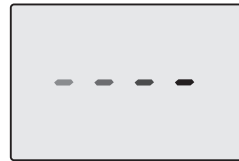

Fig. 7.4
- Electrically power the boiler by switching on the double pole isolation switch. The LCD will display, the - - - - symbol (Fig. 7.4).
- Switch off the boiler by pressing the 13 (Fig. 7.5) key for 2 seconds until the --- symbol appears on the LCD display (Fig. 7.4).